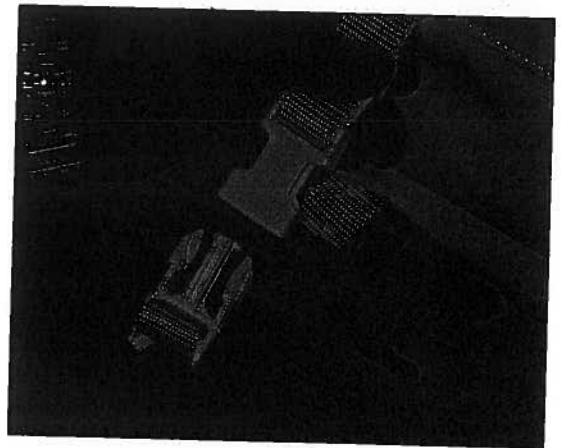

fig. 28
- d. Attach the (4) Retaining Straps on the mattress compartment to moveable parts of the bed frame - that is, parts that move with the mattress (fig. 28) when the head or foot of the bed is raised or lowered.